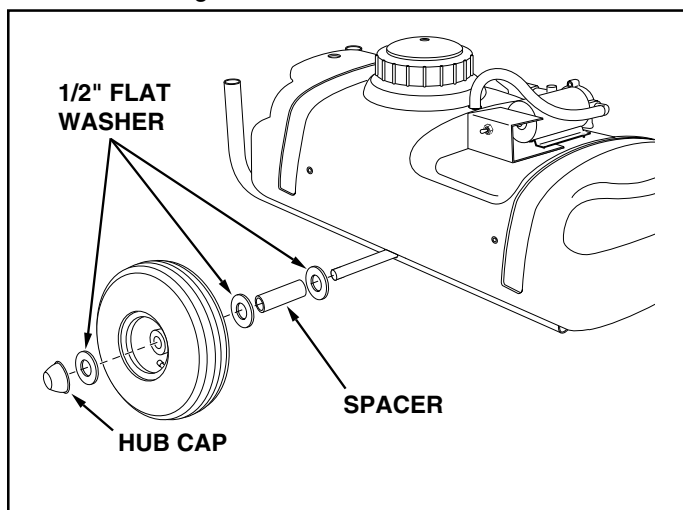
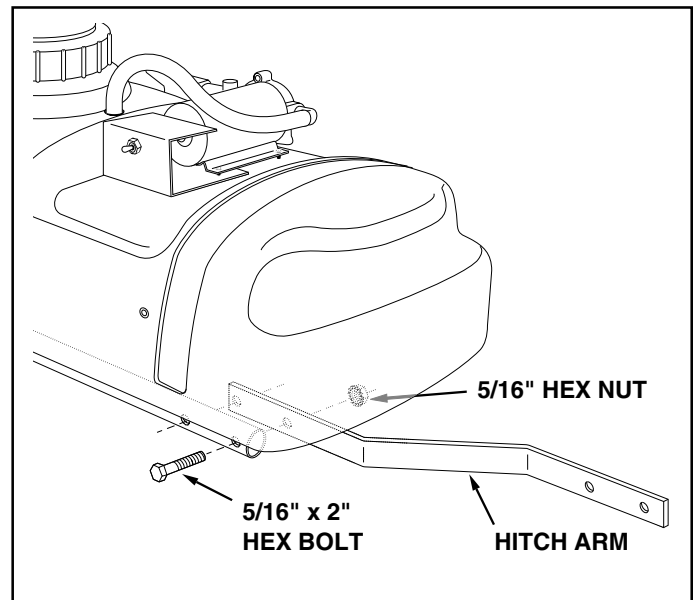
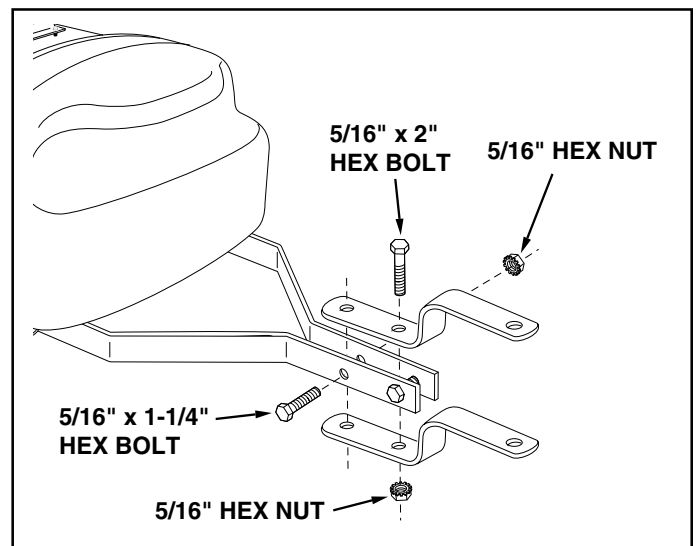

FIGURE 1
FIGURE 2
FIGURE 3
Your sprayer carton contains parts as shown in figure 1. The hardware package contains parts as shown in figure 2. Identify all parts and layout as shown in figures 1 and 2.
2. Assemble the axle through the large holes in the frame tubes. If the axle will not fit, slightly loosen the bolts in the frame tubes to align the holes. Retighten the bolts after assembling axle. See figure 1.
3. Assemble a 1/2" flat washer, a spacer, a second 1/2" flat washer, a wheel (valve stem facing out) and a third 1/2" flat washer onto the axle. Lightly tap a hub cap onto the end of the axle. Repeat on other end of axle. See figure 1.
4. Assemble a hitch arm to the inside of a frame tube underneath the tank. Use two 5/16" x 2" hex bolts and 5/16" hex nuts as shown in figure 2. **Do not tighten yet.** Repeat for other side.
5. Fasten the ends of the hitch arms together using two 5/16" x 1-1/4" hex bolts and 5/16" hex nuts. **Do not tighten yet.** See figure 3.
6. Assemble the hitch brackets to the hitch arms using two 5/16" x 2" hex bolts and 5/16" hex nuts. Position each bolt behind one of the cross bolts in the hitch arms. **Do not tighten yet.** See figure 3.
7. At this time **tighten all bolts** starting with the bolts in figure 2, then the bolts in figure 3.